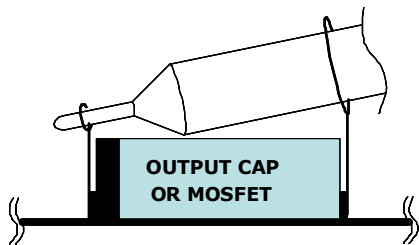

FIGURE 3. PROPER PROBE SET-UP TO MEASURE OUTPUT RIPPLE AND PHASE NODE RINGING
6. Use oscilloscope to observe output voltage ripple and phase node ringing. For accurate measurement, please follow setup shown in Figure 3.